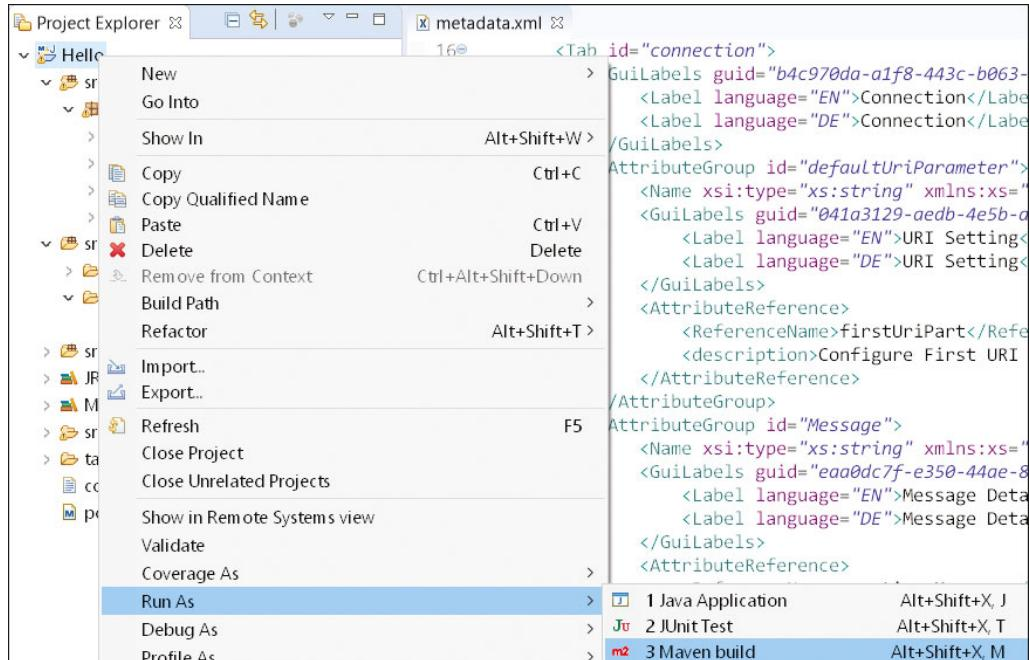

Figure 6.101 Build Adapter Project
1. Right-click the adapter project **Hello**, and choose **Run As** • **3 Maven build** in the context menu (Figure 6.101).